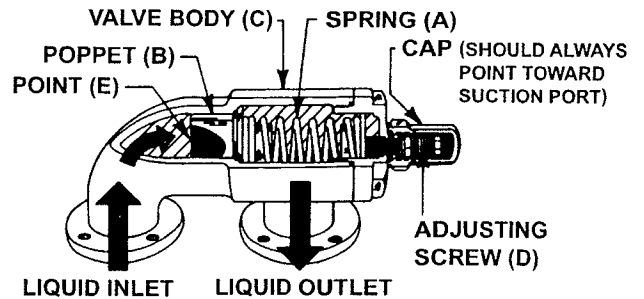

FIGURE 4
The pressure relief valve mounted on Viking pumps and most in-line valves are of the spring loaded poppet design. See **Figure 4**. The spring (A) holds poppet (B) against the seat in the valve body (C) with a given force determined by the spring size and by how tightly it is compressed by the adjusting screw (D). The pump discharge pressure pushes against the underside of the poppet at point (E). When the force exerted by the liquid under the poppet exceeds that exerted by the spring, the poppet lifts and liquid starts to flow through the valve. As the discharge pressure builds up, more and more of the liquid flows through until a pressure is reached at which all of the liquid being pumped is going through the valve. This pressure is the relief valve setting.